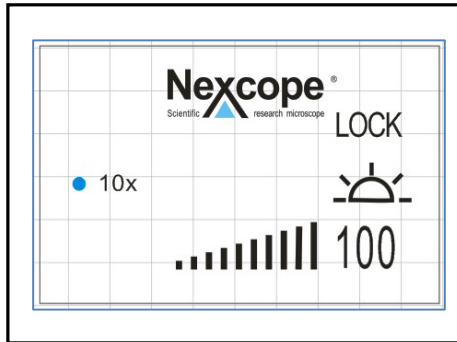

Fig.15
3. **Double-click Knob : lock brightness or unlock (Fig.15).** The brightness adjustment knob fails when locking, and "LOCK" appears on the LCD screen; Double-click the knob again to release the lock and the "LOCK" on the screen disappears;